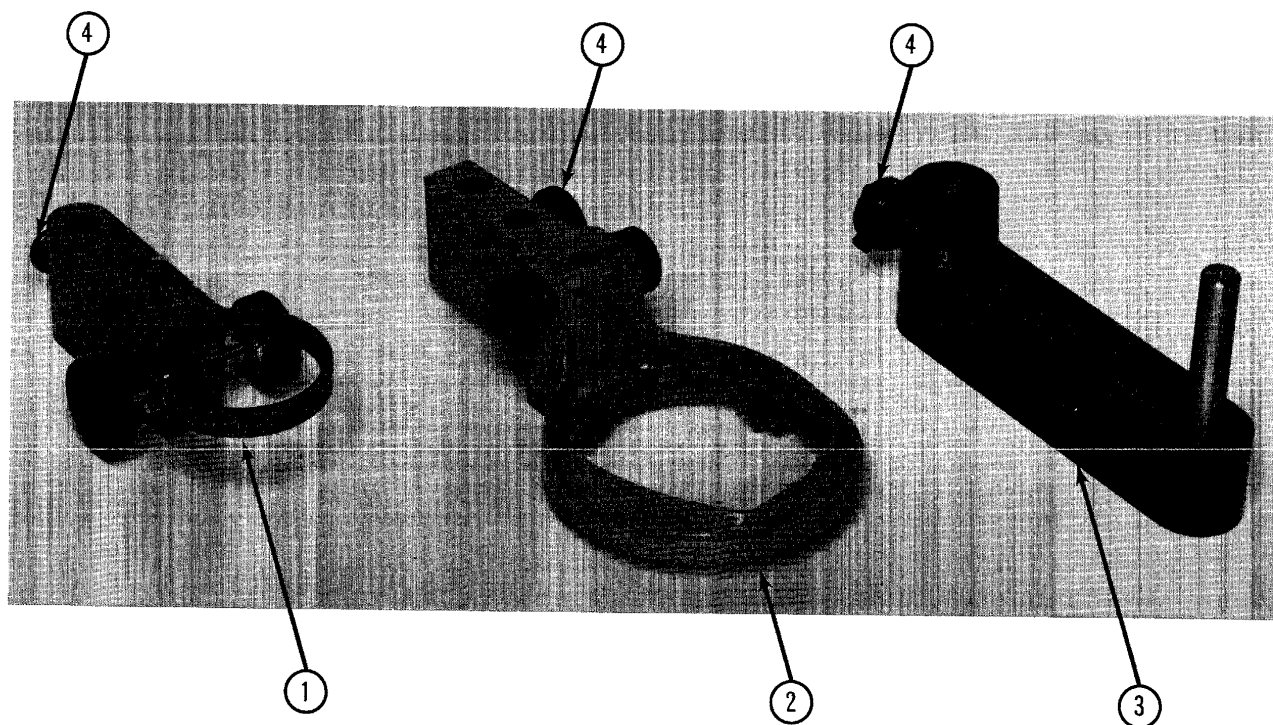

FIG. 4 MICROSCOPE ADAPTERS
- STATINTL 1. [REDACTED] stereomicroscope used with adapter #1 Figure 4.
- STATINTL 2. [REDACTED] used with adapter #2 Figure 4.
- STATINTL 3. [REDACTED] stereoscopic microscope used with adapter #3 Figure 4.
All microscope adapters are mounted to the carriage assembly by slipping the adapters over the post on the Microscope Carriage Assembly and secure the adapter to the Carriage Assembly by tightening hand screw #4 Figure 4.